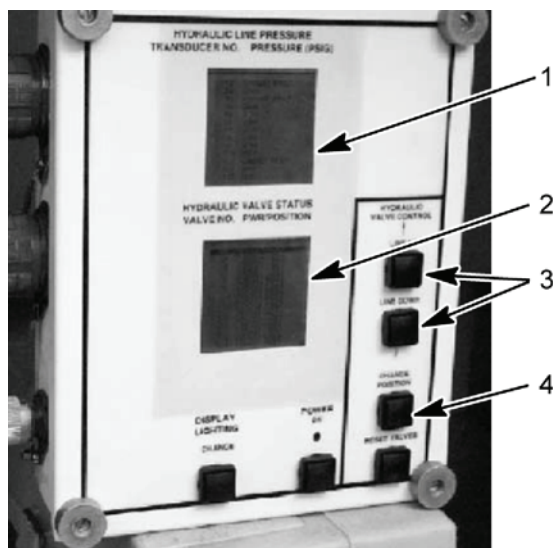

Figure 14. HDC Control Box
- Turn adjusting shaft (Figure 16, item 2) clockwise to increase pressure; counterclockwise to decrease pressure. Read transducer T-13 hydraulic pressure on the HDC display (Figure 14, item 1). Turn adjusting shaft (Figure 16, item 2) to obtain proper pressure indication on transducer T-13 (Figure 14, item 1) on the HDC control box. Tighten jam nut (Figure 16, item 1) and replace cap (Figure 16, item 3).
- Using LINE UP or LINE DOWN button (Figure 14, item 3) on the HDC control box, select V5 on the HDC display (Figure 14, item 2). Using the CHANGE POSITION button (Figure 14, item 4), open V5 on the HDC display (Figure 14, item 2). Repeat step for V12, V13 and V19; opening V12 and V13, and closing V19.